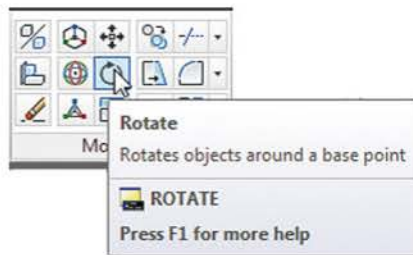

Fig. 6.23 The Rotate tool from the Home/Modify panel
2. Call **Rotate** – *left-click* its tool icon in the **Home/Modify** panel (Fig. 6.23), *pick Rotate* from the **Modify** drop-down menu, or *enter ro* or *rotate* at the command line. The command sequence shows: